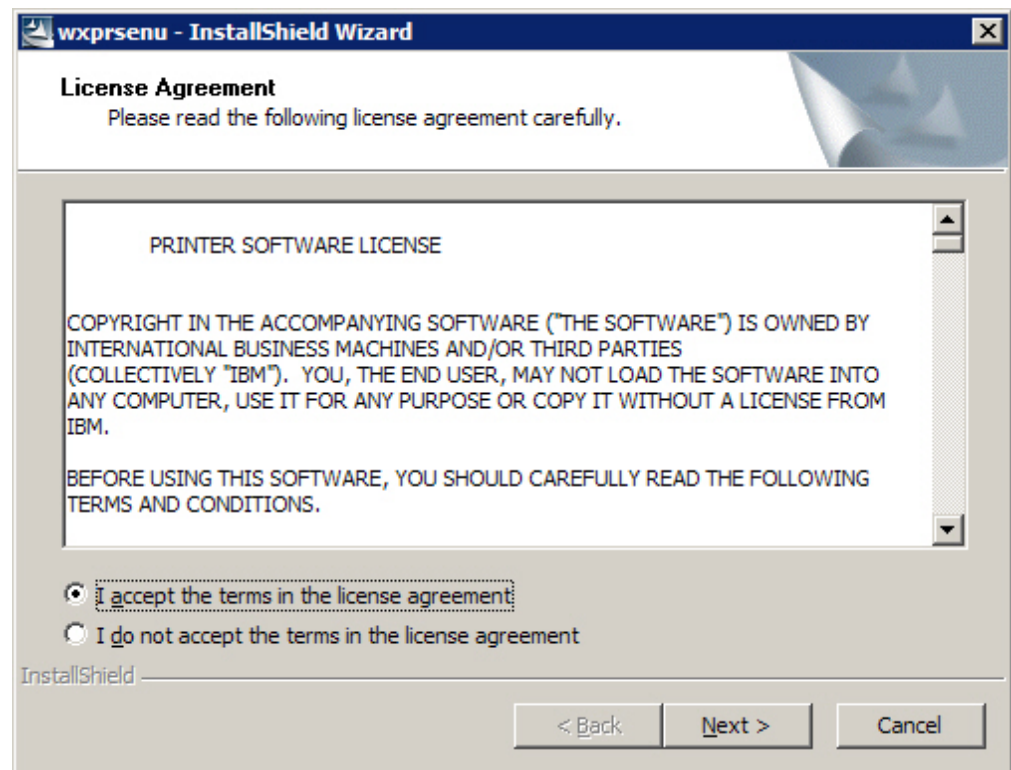

Figure 6. License agreement
2. Double-click the installer. The license agreement appears (see Figure 6).